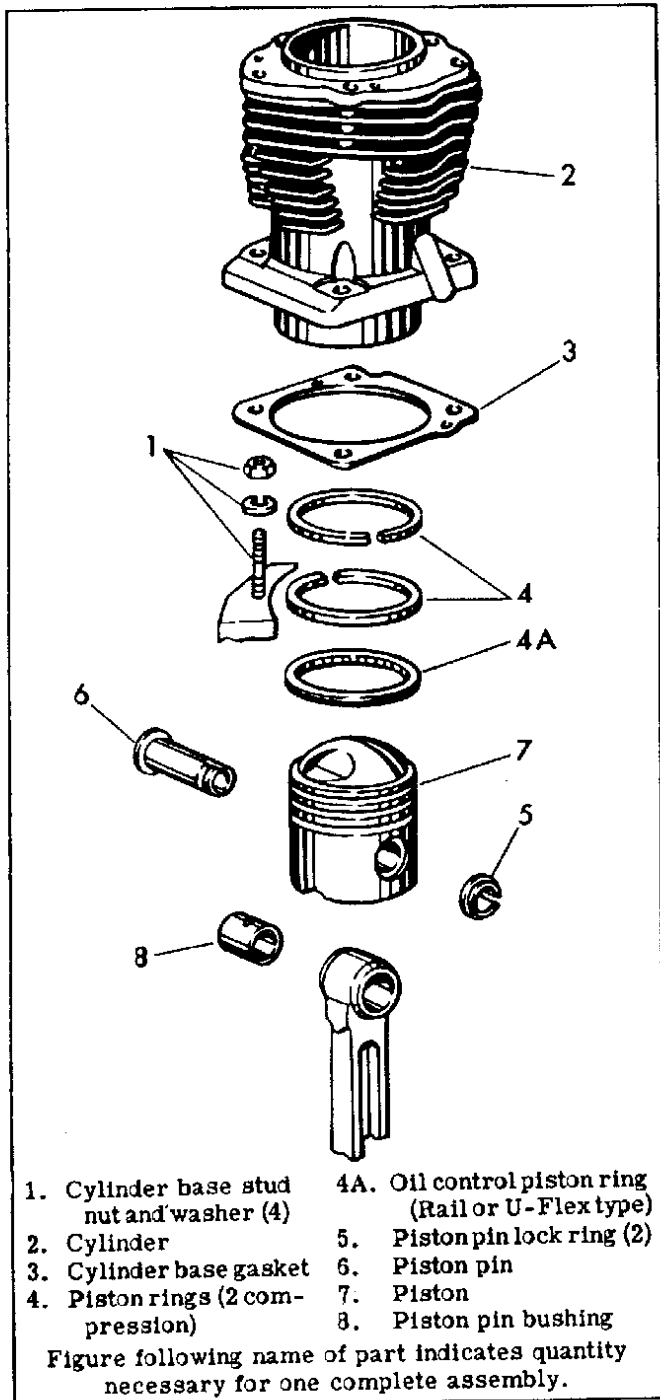

Figure 3C-1. Cylinder - Exploded View
### DISASSEMBLING CYLINDER AND PISTON (Fig. 3C-1)
Spring piston rings (4) outward until they clear ring grooves in piston and lift off. Use a commercial ring expander if necessary. Pry right piston pin lock ring (5) off piston pin using the Piston Lock Ring Tool, Part No. 96780-32 and screwdriver as shown in Fig. 3C-2. Right end of piston pin has slots for this purpose. Tap out piston pin (6) and lift off piston (7).